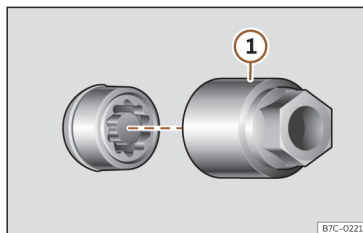

Fig. 242 Anti-theft wheel bolt with cap and adapter.
- Insert the special adapter >>> **Fig. 242 ①** (vehicle tools >>> page 309) onto the anti-theft wheel bolt and push it on as far as it will go.